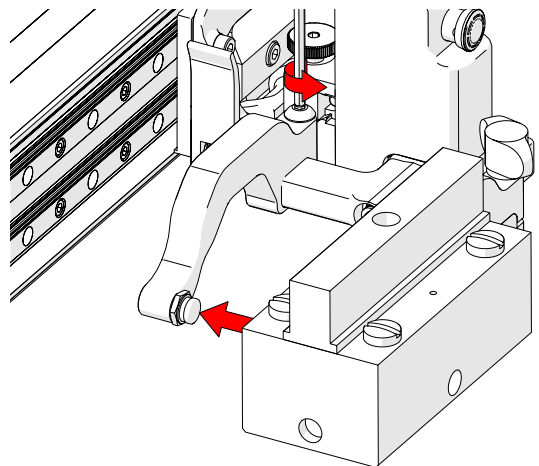

Fig. 122 - Adjust inner arm
6. Loosen the arm clamp screw (Fig. 122).
7. Place the wedge on the pivot button of the inner probe holder arm (Fig. 122).